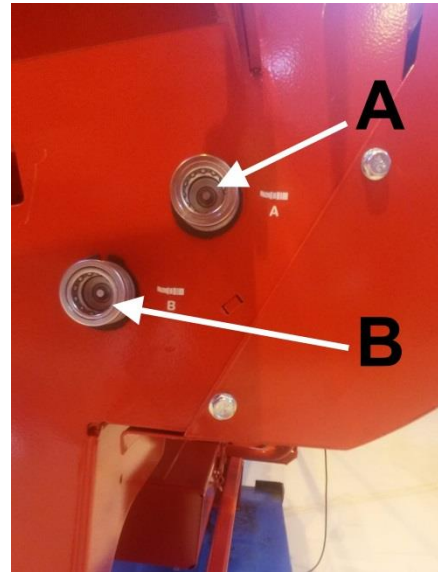
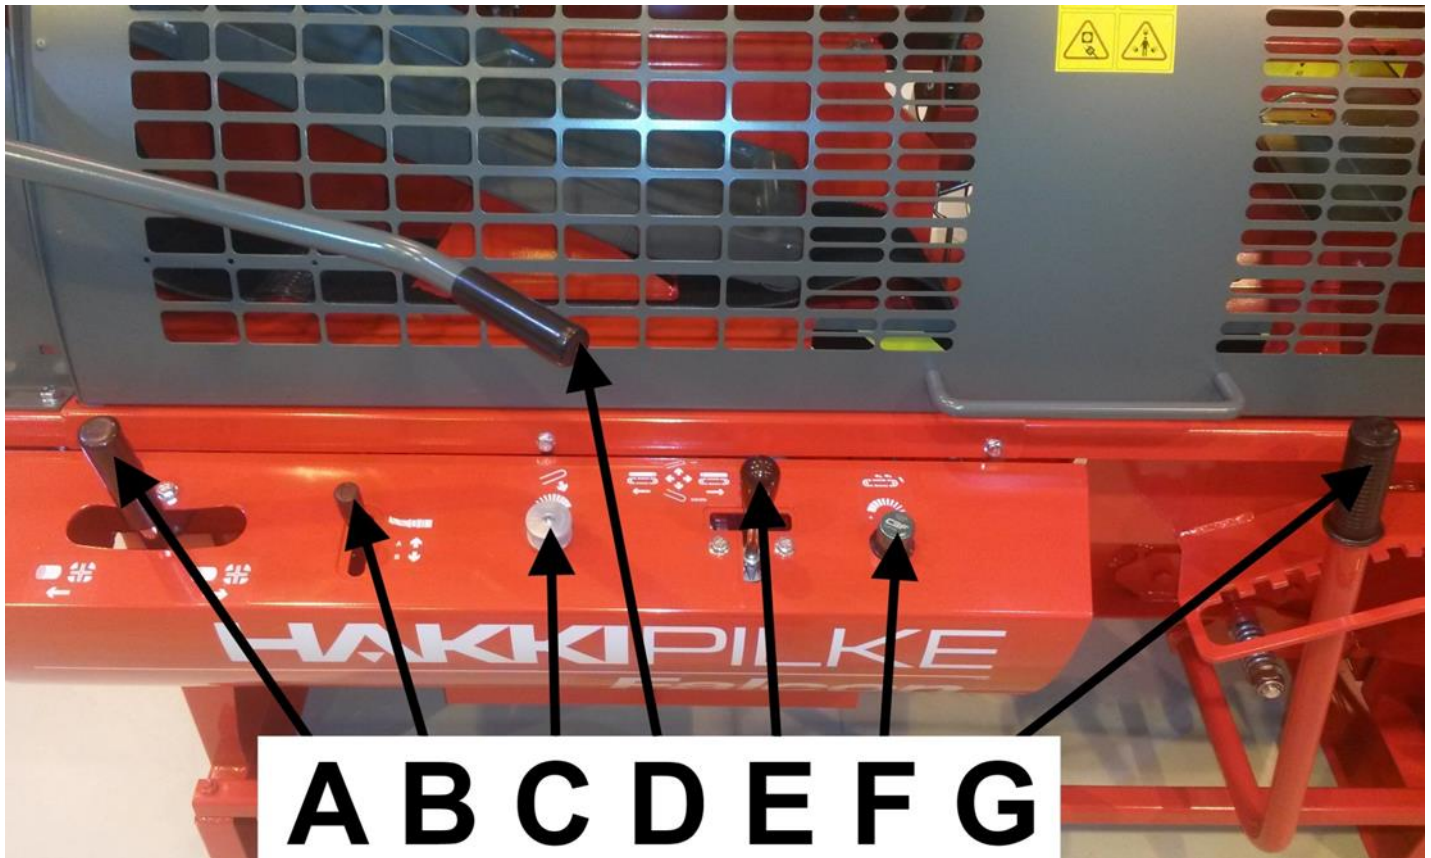

Figure 13.
Figure 15. Controls
Connect the additional hydraulics (e.g. log lifter) by pushing the auxiliary device's hydraulic hoses into quick couplings A and B in Figure 13.
Use the quick couplings in Figure 13 with control lever B in Figure 15.
#### Names and functions of the controls in Figure 15:
8. Activate the machine's splitting motion by lowering the saw bar fully into the lower position and lifting it back up using lever E (Figure 15). The splitting motion must be normal. The splitting motion can also be started by pulling lever A in Figure 15 to the right side.
- a. Use lever E in Figure 15 to perform a few sawing motions without any actual logs.
10. Ensure that the saw chain begins running when you lower the saw bar by about 2 cm using lever E (Figure 15).
12. Ensure that the splitting knife returns to the initial position (in the middle of the splitting motion) also by pushing lever B in Figure 15 to the left.
13. Test run the feed and return motion of the input conveyor using lever E in Figure 15 by pushing the lever to the upper right (belt runs to the right) and upper left (belt runs to the left).
14. Start the output conveyor by using control F in Figure 15 (accessory) to adjust the speed to an appropriate level for the conveyor.
The input conveyor feeds the wood to be processed into the machine. Feed wood into the machine using control lever E in Figure 15 of Section 3.1.
2. Use the input conveyor to feed wood into the cutting section by pushing lever E in Figure 15, Section 3.1, to the upper right position. You can cancel the feed by pushing lever E to the upper left position.
3. Once the log stops for cutting in the mechanical measuring device, lock the log in place with the wood press by pressing handle D of the press (please see Figure 15) downward.
4. Cut the log by pulling lever E in Figure 15 back, which activates the saw chain and lowers the saw bar.
5. Return the saw bar to the raised position by pushing lever E in Figure 15 forward, **which automatically activates the splitting function.**
When sawing wood, the second to last piece should be sawn in such a way that the remaining piece is of a sufficient length. This ensures that the log will stay firmly under the wood gripper and that the sawing will be steady and safe. Drive the last piece of wood directly into the splitting section, and start the splitting process with control lever A or lever E in Figure 15.
The splitting beam performs the splitting motion automatically whenever the saw bar is lowered all the way down using lever E (Figure 15) and raised back up again. In other words, the splitting motion starts automatically when the log is dropped into the splitting groove after cutting and the saw bar is lifted back up.
In addition to this, control lever A in Figure 15 can be used to activate the splitting by pushing the lever to the right and returning it to the initial position. This function is useful, for example, when the last log to be split has been driven into the splitting groove. In this way, the operator does not have to unnecessarily move the saw bar into the lower position. Instead, the splitting function can be activated much faster using this lever.
The machine's splitting motion can be interrupted by pushing control lever B in Figure 15 to the left. **The splitting can also be halted by raising the machine's guard when the saw bar is in the upper position.**
4. Activate the splitting using lever A (Figure 15).
The belt of the Hakki Pilke Falcon firewood processor's output conveyor is driven by a hydraulic motor. You can adjust the belt's rotating using adjuster knob F in Figure 15 (accessory). If your machine features a self-cleaning output conveyor (accessory), the optimal running speed for the belt can be determined by trying different settings. The split logs should only just pass over the separation plate. The separation plate can be adjusted with adjustment screws B in Figure 24.